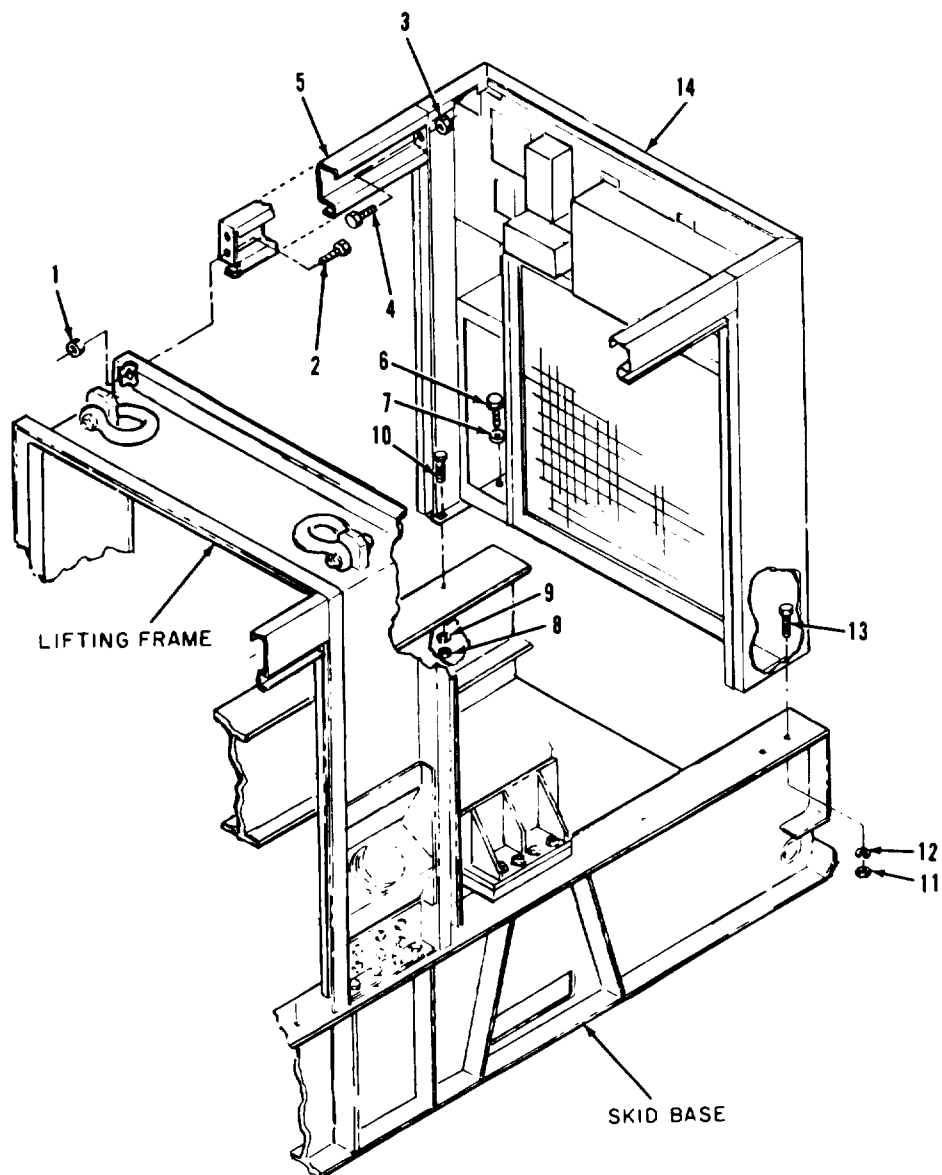

Figure 2-3. Rear housing and upper sides housing, removal and installation
2. Refer to figure 2-3 and remove upper side housings (5) and assembled rear housing (14) in the-order of index numbers assigned.
Legend to figure 2-3: